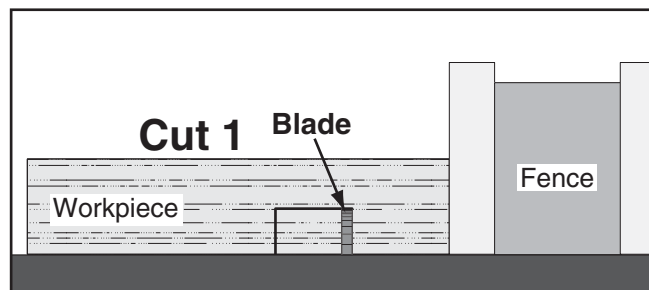

Figure 65. First cut for a single-blade dado.
6. Align the blade to cut one of the dado sides, as shown in **Figure 65**.